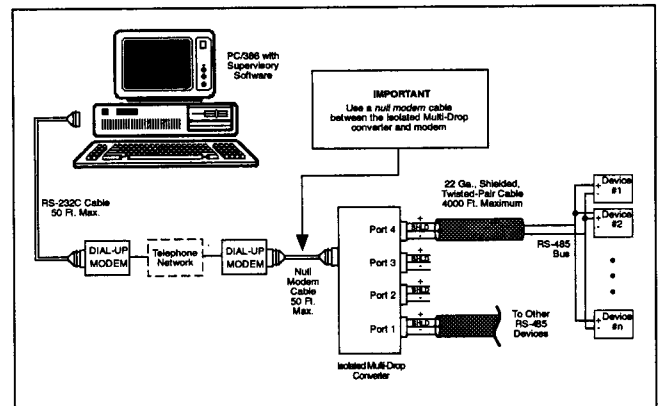

Figure 8. Connecting the Converter Using Dial-up Modems
If you want to mount the Isolated Multi-Drop converter to a switchgear panel, do that first. (Refer to Appendix B for mounting dimensions.) Then follow these steps, while referring to Figure 8 in the next column.
1. Prepare 2 two-conductor cables by connecting them to one two-terminal connector, as described at the beginning of this section and illustrated in Figure 8.